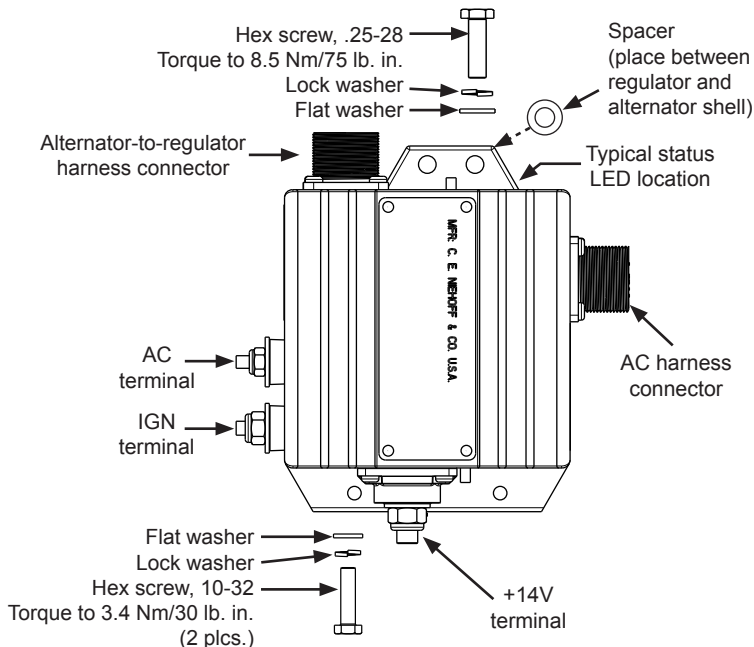
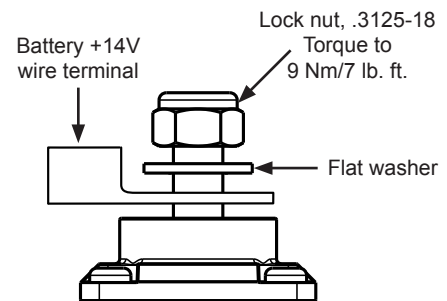

Figure 4: Typical Regulator Connections
Figure 5: +14V Terminal Hardware Stacking Order
6. Connect vehicle 14V battery positive cable to regulator +14V terminal (if dual voltage 28/14V operation is required). Install hardware on +14V terminal in stacking order shown on page 2, Figure 5. Torque to 5.7 Nm/50 lb. in.
1. Mount regulator on alternator with included hardware and spacer as shown in Figure 4.
2. Securely plug alternator-to-regulator harness into receptacle on regulator. See Figure 4 for receptacle location.
- **+14V terminal** (if required) can be connected to the +14V battery terminal in the same battery string that the alternator +28V terminal is connected. This allows the charging system to equalize battery charging for dual voltage systems. See Figure 4 for terminal location. Install hardware on +14V terminal in stacking order as shown in Figure 5. Torque to 5.7 Nm/50 lb. in.
- **IGN terminal** (required) must receive voltage from vehicle switched DC ignition source or multiplex in order to energize regulator. Torque to 3.4 Nm/30 lb. in. See Figure 4.
- **P/AC terminal** (if required) taps AC voltage from alternator, typically half the charge voltage (3A maximum). P/AC terminal provides alternator RPM frequency at 10:1 ratio for use with tachometer. Torque terminal hardware to 3.4 Nm/30 lb. in. See Figure 4.